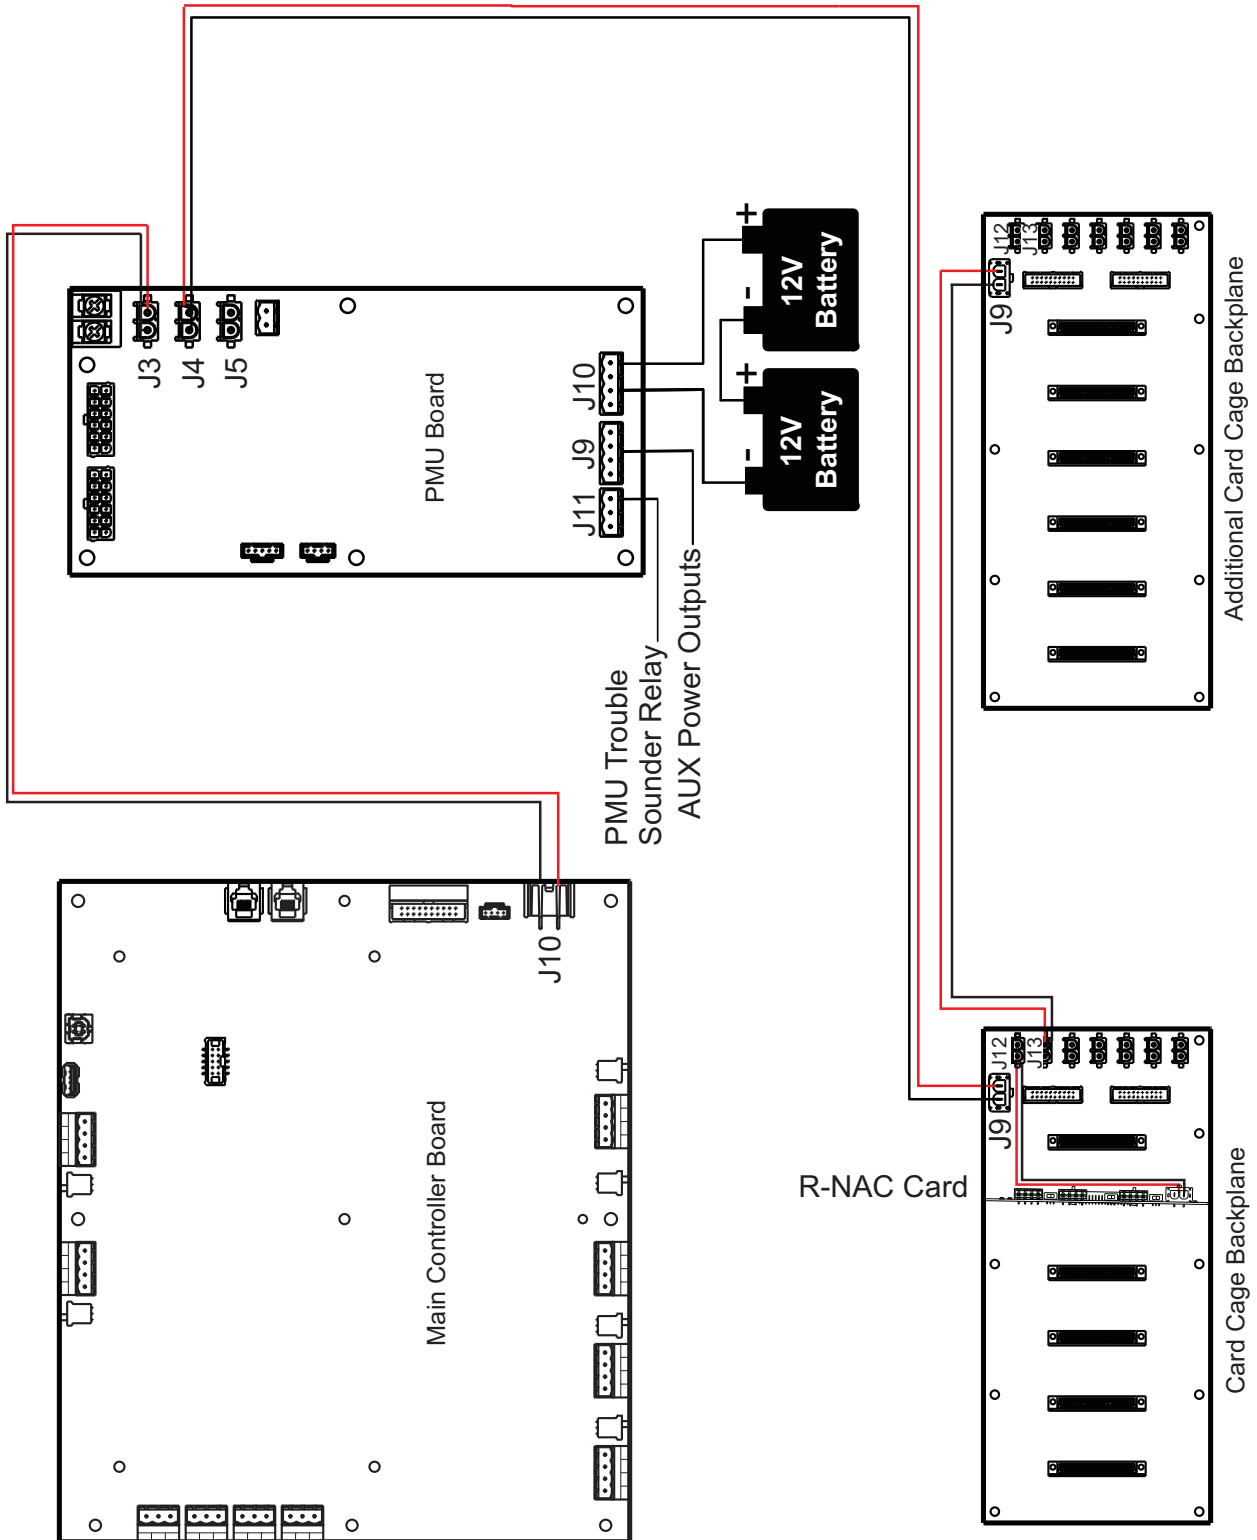
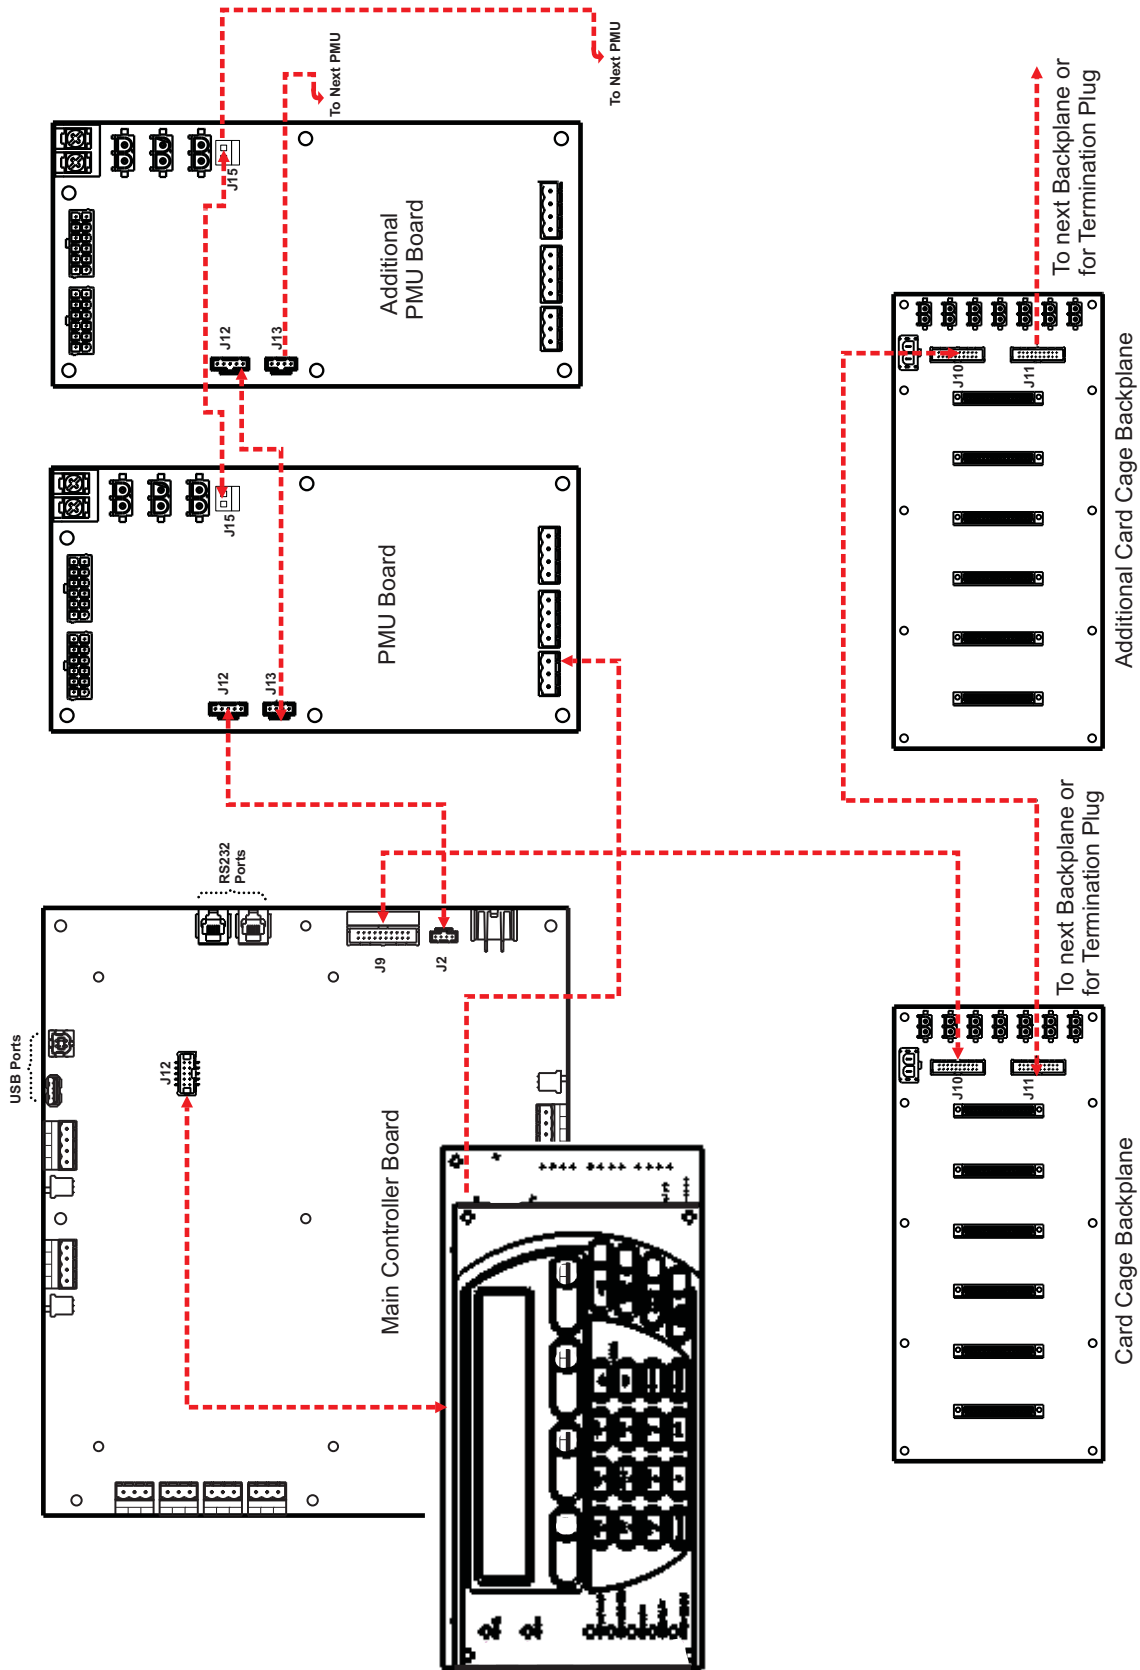

Figure 2-15. Internal 24 Vdc Power Connections
Figure 2-16. Internal Communication Connections
**Note:** Before securing the MCB, for ease of access, it is recommended to fully open the MCB and connect internal power and communication connections. Refer to Figure 2-15 and Figure 2-16 for an overview of power and communication connections.
Figure 2-15 provides an overview of internal 24Vdc power supply connections for the ARIES NETLink system.
Figure 2-16 provides an overview of internal communication connections for the ARIES NETLink system.
11. Connect the COM harness from connector J13 of the first PMU Board to J12 on the Add-On PMU Board. Refer to Figure 2-16.